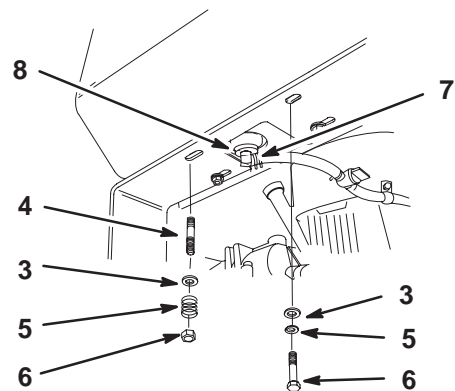

Figure 2
1. Align fuel tank to top of rear frame and secure fuel tank right side with 2 bolts (5/16 x 7/8 in. (22 mm)), 2 lock washers (5/16 in.) and 2 washers (5/16 in.) (Fig. 2).
2. Secure fuel tank left side to frame with 2 studs (5/16 x 7/8 in. (22 mm)), 2 washers (5/16 in.), 2 springs and 2 locknuts (5/16 in.) (Fig. 2).
- Slide the hose clamp onto the fuel line (Fig. 2).
- Push the fuel line onto the fuel tank connection and secure it with a hose clamp (Fig. 2).